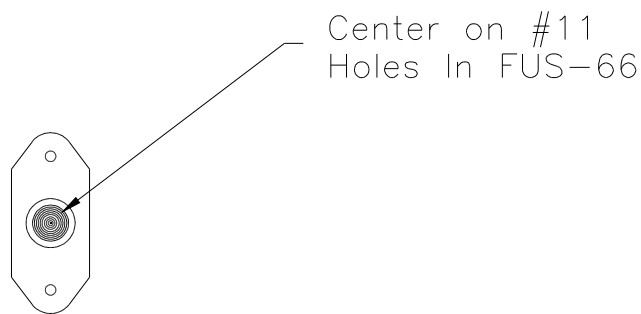

Figure 20.5.9
- 9) Remove the door doubler and position a floating anchor nut (F5000-3) on the back side of each #11 hole. Figure 20.5.9.